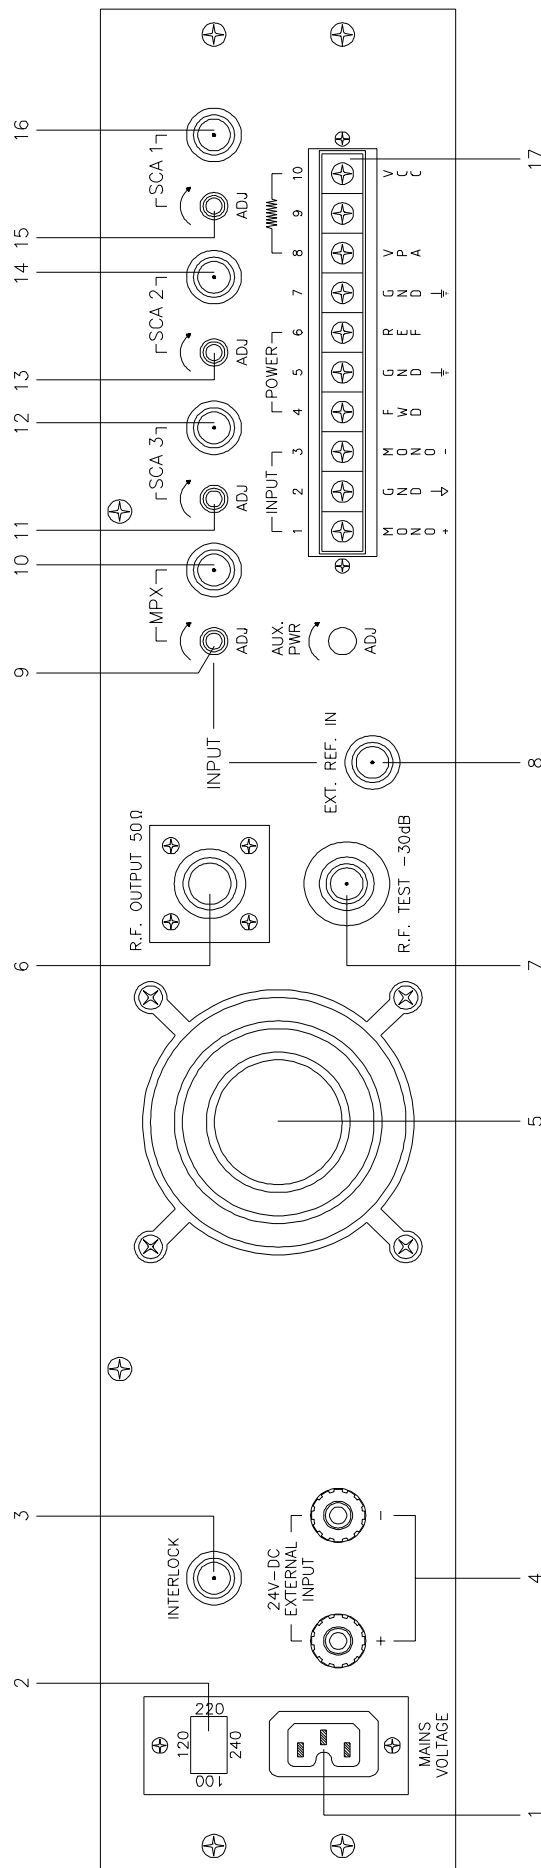

FIG. 2B
Connect a low-distortion audio generator to the MONO and/or MPX inputs (4-5 Fig.1A and 10 Fig.2B), as shown on the SETUP 2.
1) Connect the stereo source's output to the MPX input of the unit (5 Fig.1A or 10 Fig.2B).